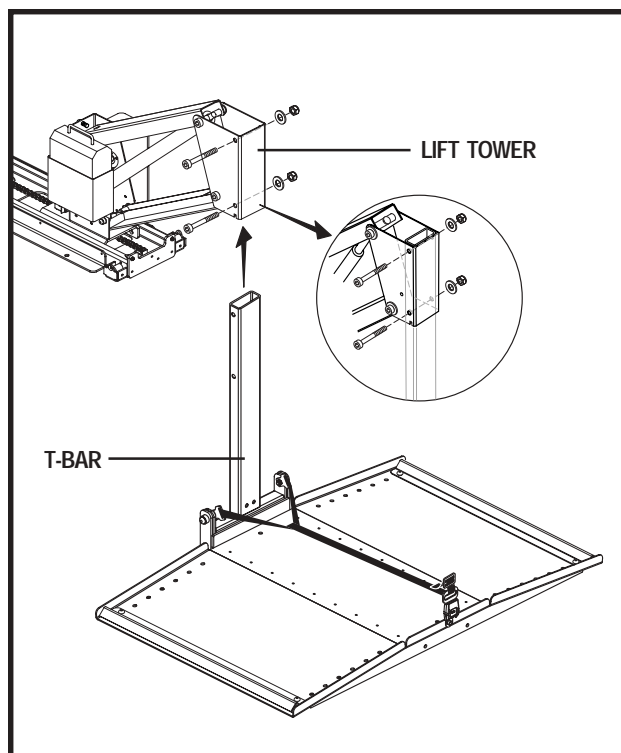

Figure 3. T-Bar Installation
14. Flip the T-bar into an upright position. Insert the T-bar into the lift tower and secure into position with the supplied hardware. See figure 3.